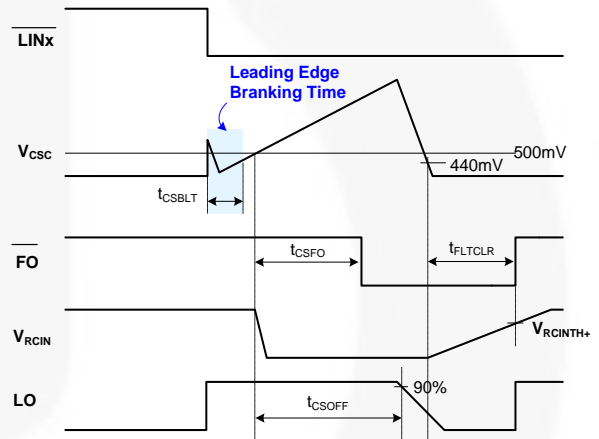

Figure 43. $RCIN$ and Fault-Clear Waveform Definition
Figure 43 shows the waveform definitions of $RCIN$, \overline{FO} , and the low-side driver; which uses a soft turn-off method when an under-voltage condition of the low-side gate driver supply voltage (V_{DD}) or the current-sense pin (CS) recognizes a fault. If a fault condition occurs, the \overline{FO} Pin is internally pulled to COM and all outputs ($HO1,2,3$ and $LO1,2,3$) of the gate driver are turned off. Low-side outputs decline linearly by the internal sink current source ($I_{SOFT}=40 \text{ mA}$) for soft turn-off, as shown in Figure 43.